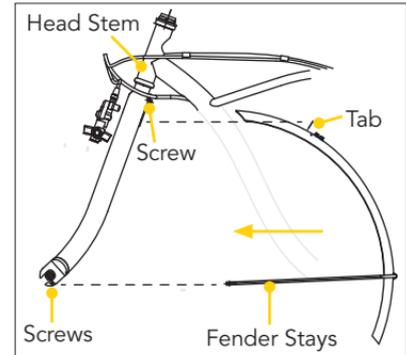

Fig. 1
- Step 1.** Remove the nut, washers and bolt at the top of the front fork. Then remove the screws at the lower fender stays (Fig.1).